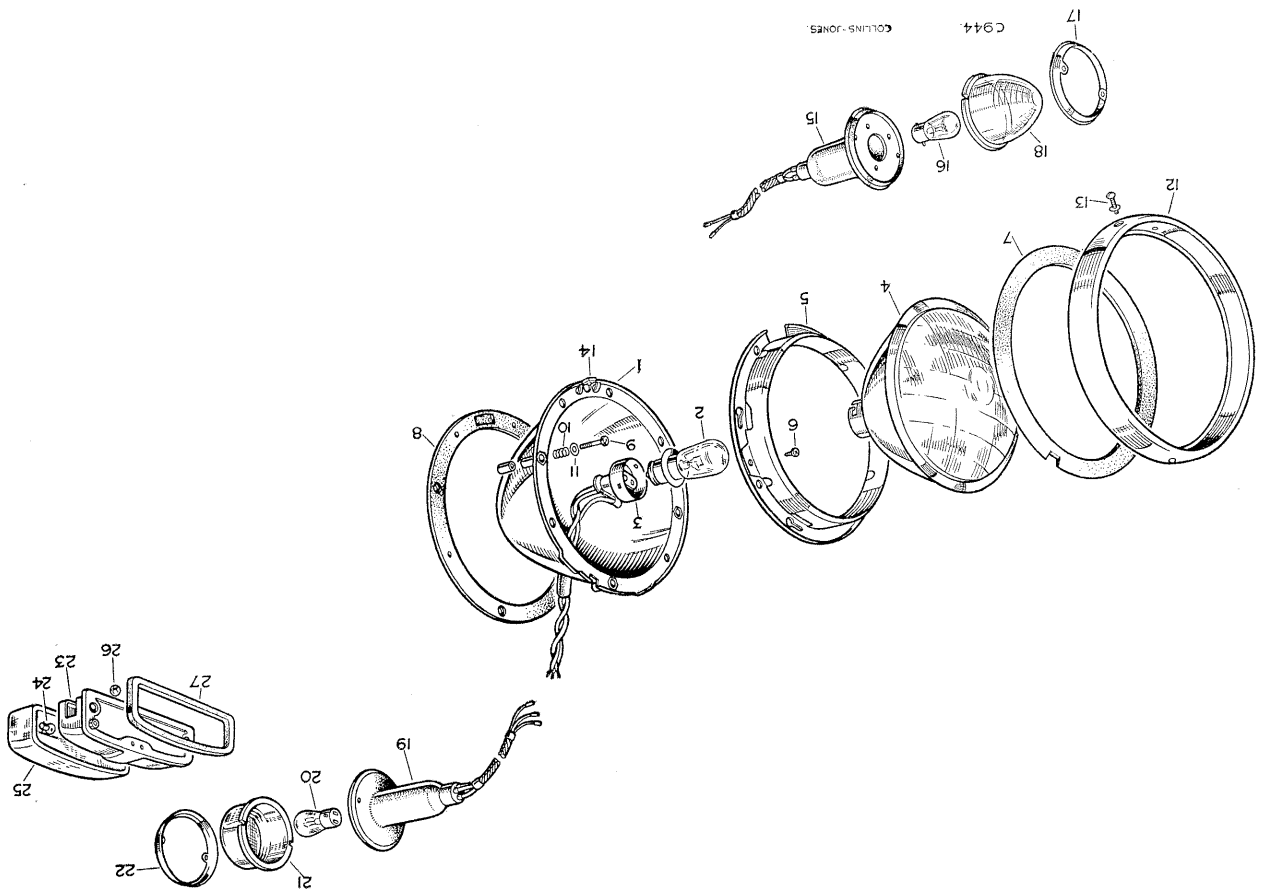

Fig. P-19—Layout of lamps
1. Mark on a board the dimensions given in Fig. P-19 and position the vehicle unladen, on level ground.